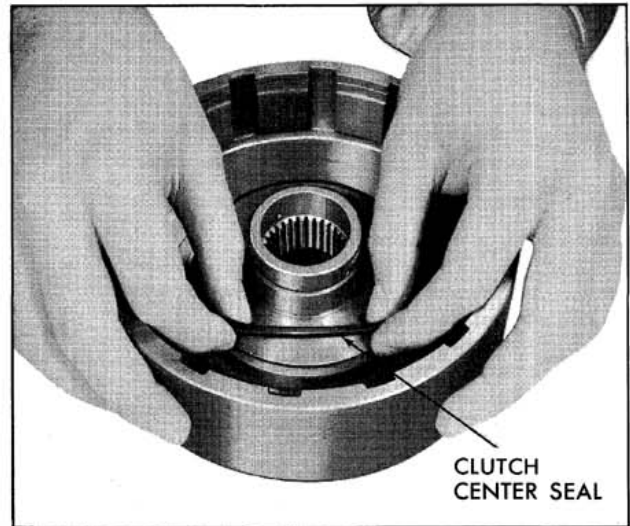

Fig. 6-158 Removing Piston Center Seal
10. Remove the center piston seal from the direct clutch housing. (Fig. 6-158)